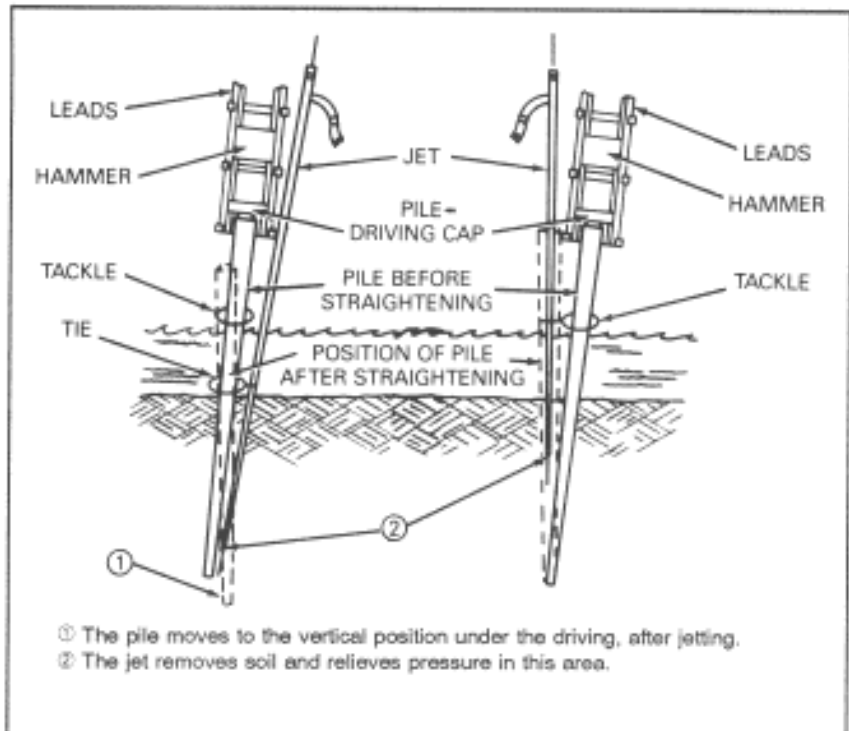

Figure 11-4. Realigning with a jet
- A jet (Figure 11-4, page 11-4), either alone or in conjunction with a block and tackle.